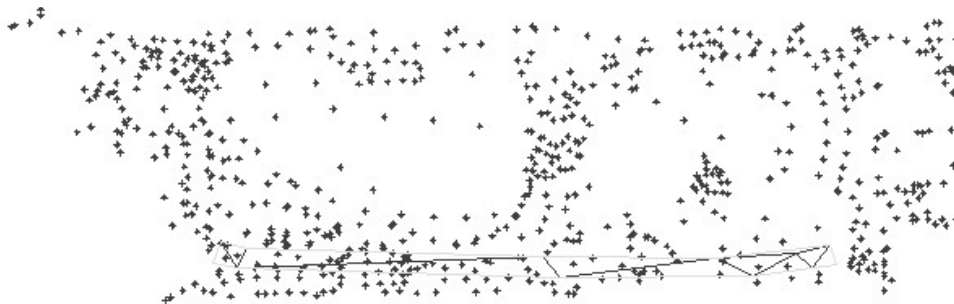

Figure 3-68 Points and the E street surface after adding breaklines
10. Select the two polylines from the drawing and then press ENTER; the breaklines are added to the E Street surface, as shown in Figure 3-68.